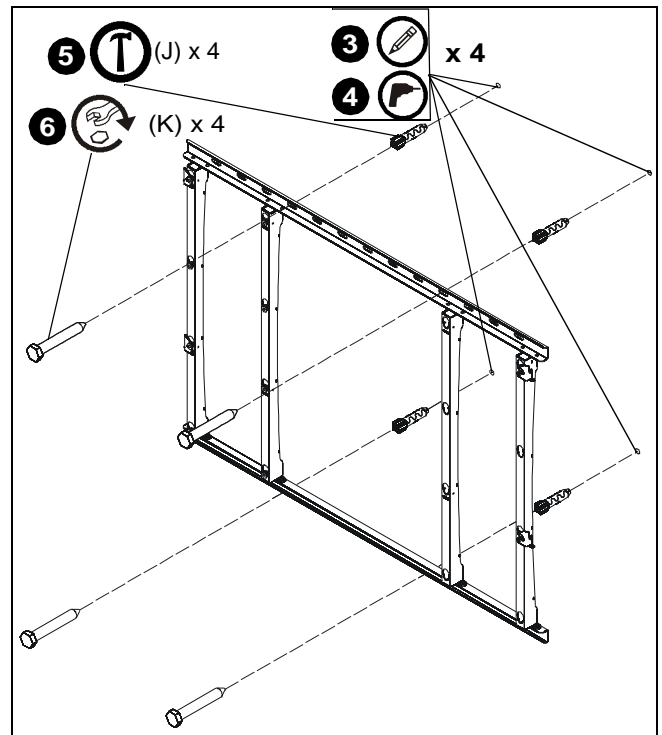

Figure 3
3. Using assembled mount as a template, mark four holes in selected mounting holes on wall. Use a level to make sure of an even mount. (See Figure 3)
4. Drill four 3/8" holes in wall 2 1/2" deep at marked locations. (See Figure 3)
5. Install four concrete anchors (J) into four drilled holes on wall. (See Figure 3)
6. Install four 3/8 x 2 1/2" hex head lag screws (K) through holes on mount and into four concrete anchors (J). (See Figure 3)